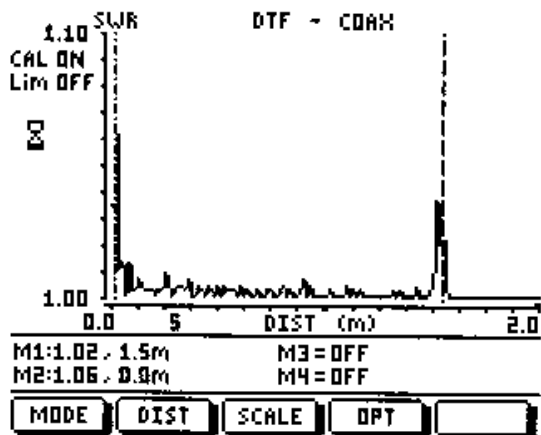

Figure 3-12. DTF-SWR Measurement Results (cable quality)
Step 28. Press the **MORE** soft key and then the **PEAK** soft key to find the worst case Return Loss (or SWR) reading. (See Figures 3-12 and 3-13.)